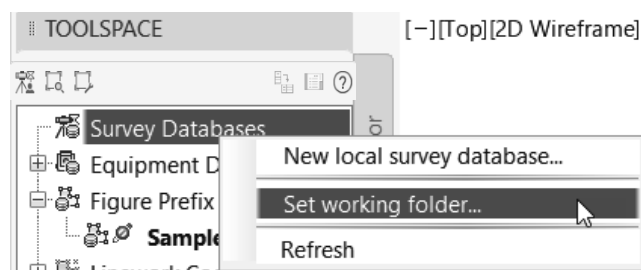

Figure 2–72
2. On the *Survey* tab, right-click on **Survey Databases** and select **Set working folder**, as shown in Figure 2–72.